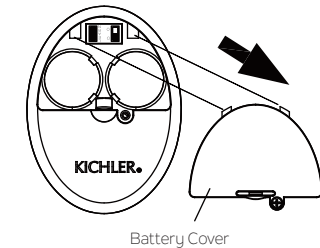

Fig. 27
Step 2. Using a screwdriver, remove the battery cover from the handset and save the screw for later use. (Fig. 27)